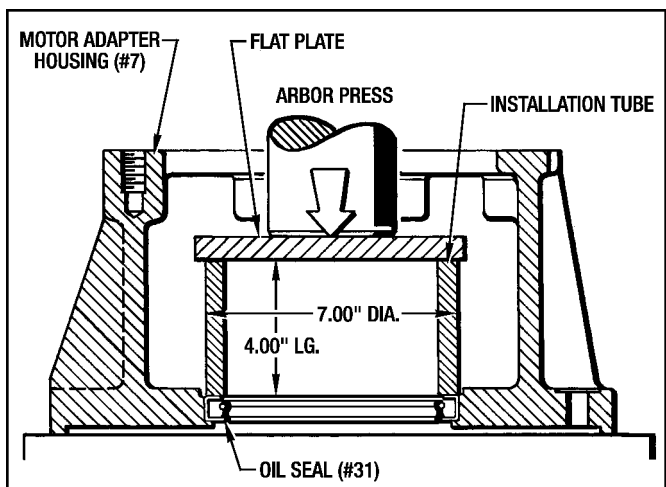

Figure 7.15 - Installing Oil Seal for MSB12
1. Remove the (8) Screws (#151) and (4) Lockwashers (#129). Pull the Housing (#8) and the Gasket (#121) off of the Motor Adapter Housing (#7). Discard the Gasket (#121).
2. Remove (8) Screws (#166) and (8) Lockwashers (#168). Pull the Motor Adapter Housing (#7) away from the motor face.
5. Press the new Oil Seal (#31) into the bore with an arbor press as shown in Figure 7.15.